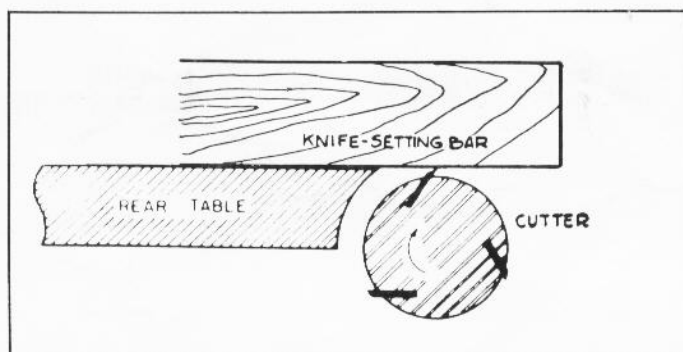

Fig. 29
4. Place a knife setting bar, made of a piece of hardwood, approximately 12" long jointed straight on one edge, on the rear table, as shown in Fig. 29.